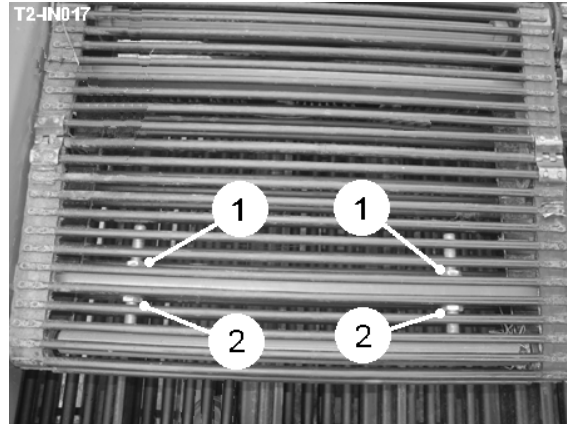

Fig 18
The spreader webs are tensioned using the locknuts (item 1 & 2, fig. 18). Ensure both sides of the web are adjusted evenly.